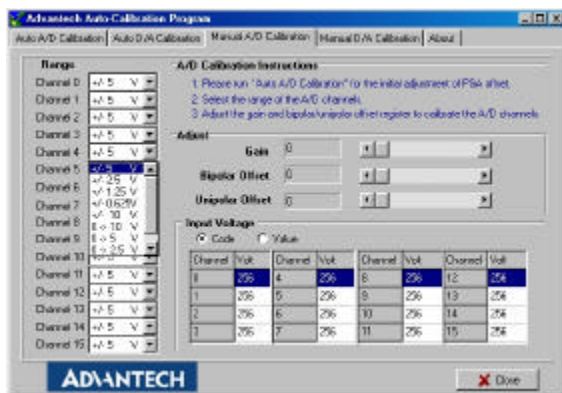

Fig. 5-15 Selecting Input Range in Manual A/D Calibration panel
Step 1: Click the *Manual A/D Calibration* tab to show the A/D channel manual calibration panel. Before calibrating, acquire the reference voltage from a precision standard voltage reference. Go to the **Range** form, select a channel and the target voltage range according to the input voltage value from a precision standard voltage reference (*Fig. 5-15*).